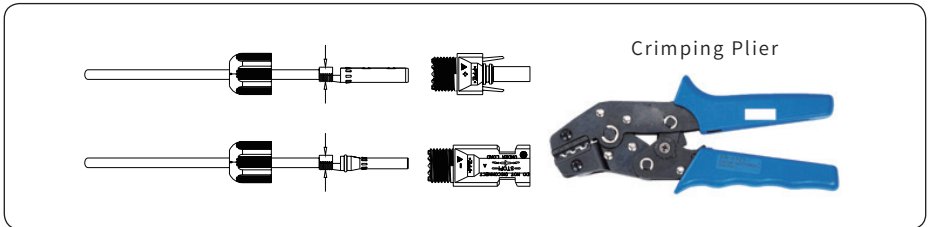

Figure 4-10
4) Insert the DC cable through the DC connector nut into the metal terminal and press the terminal with a professional crimping plier (pull back the cable with some power to check if it's tight enough), as shown in Figure 4-10: